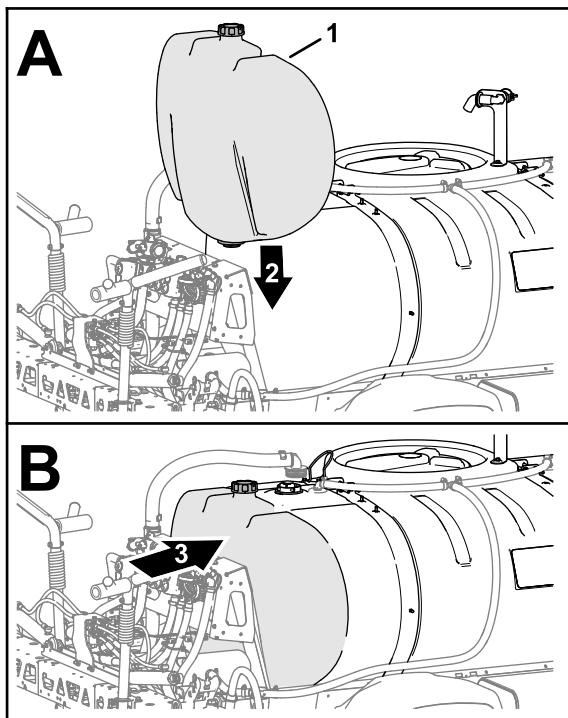

Figure 12
4. If your machine has the optional rinse tank kit installed, align the tank to the machine as shown in figure \(Figure 12\).